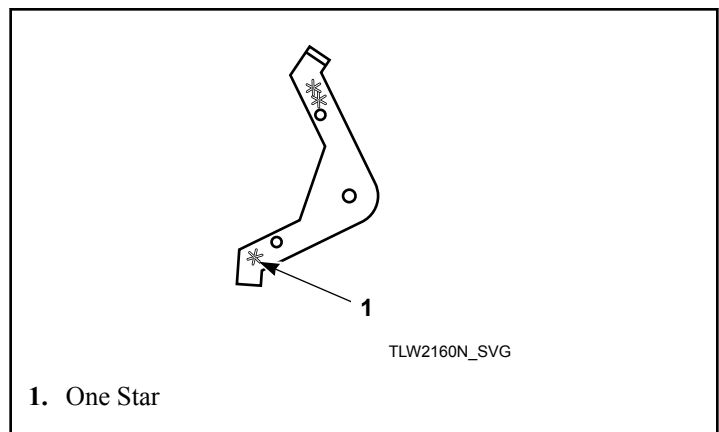

Figure 14
2. Install extension lever with arm that has one star facing down. Refer to *Figure 14*.